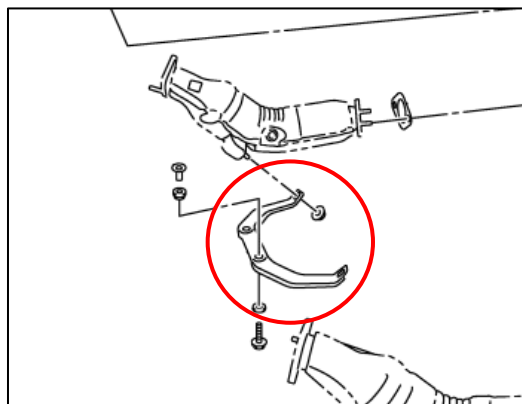

Figure 2
5. Disconnect and remove the Exhaust Mounting Bracket. *Figure 2.*
6. Disconnect all (4) four Oxygen Sensors. *Figure 2.*
7. Optionally you can disconnect and remove the Downpipes/Catalytic Converter from the vehicle. In house, we leave them connected and remove them with the Exhaust Manifold as once piece. *Figure 2.*